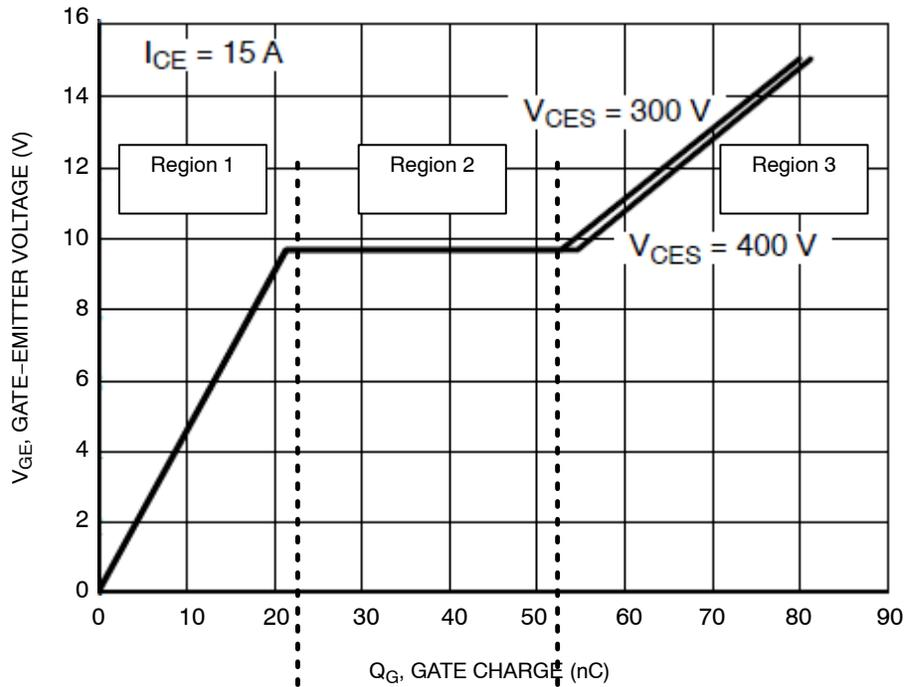

Figure 2. Gate Voltage vs. Gate Charge Characteristics (15 A, 600 V IGBT)
2. Gate charge considerations – In order to fully turn-on the device in high voltage application, both MOSFET and the IGBT drivers must supply voltage beyond the plateau voltage that is needed to overcome the equivalent of the Miller effect in the device (providing the Q_{GD} and Q_{GC} charge at a constant voltage to the MOSFET and IGBT, respectively). The plateau voltage is shown in Figure 2. As shown here, the typical IGBT has a higher plateau voltage (near 10 V) than a typical MOSFET (near 5 V). There is also a higher variability in the IGBT plateau voltage as a function of collector current. As a result, it makes sense to set the IGBT V_{GE} value higher than the typical FET V_{GS} value. However, in both cases, increasing the gate voltage beyond the plateau voltage increases the value of total gate charge that